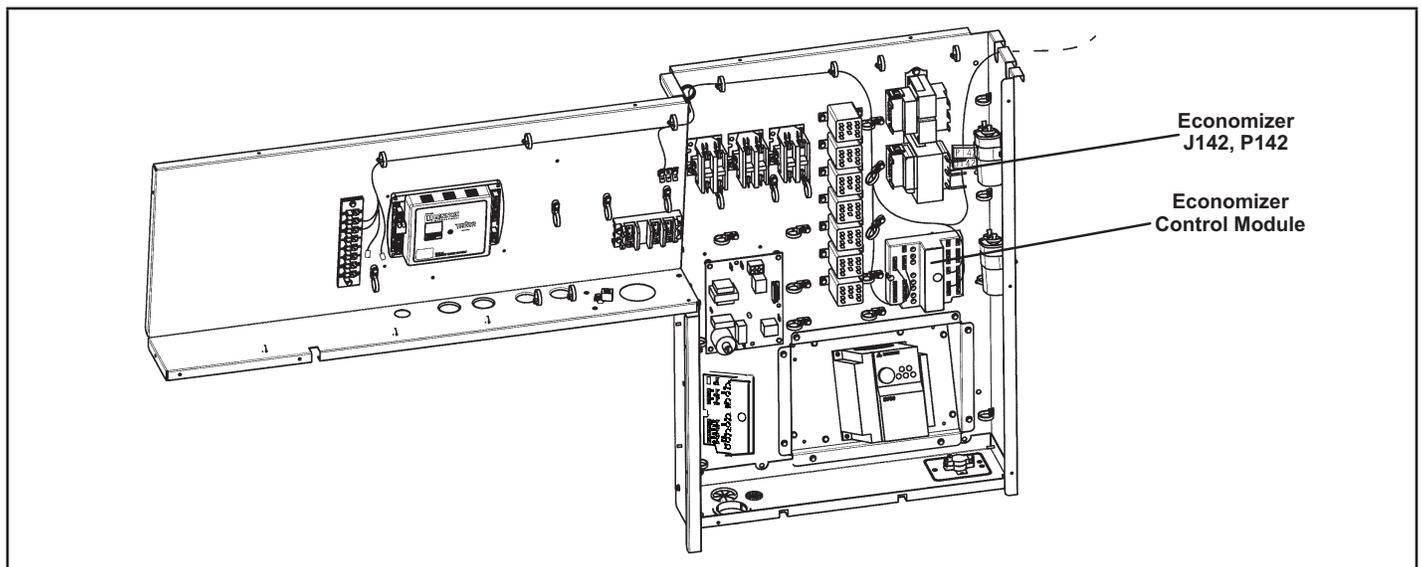

FIGURE 31
- 1 - The economizer control module is located below the actuator for shipping. Relocate the control to the unit control box. See FIGURE 31.
- 2 - Route the control wires to unit terminal block (TB1) and connect these wires to TB1 as following (see FIGURE 31):